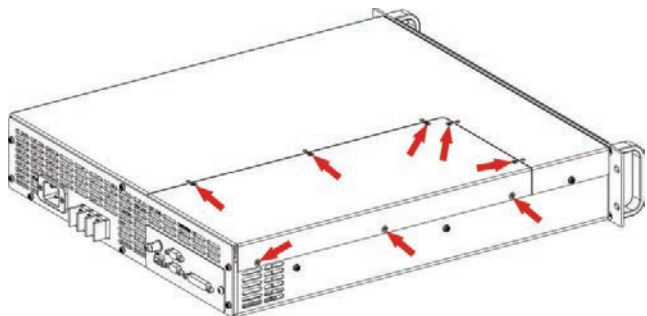

Figure 5.1 – Access Panel Screw Locations
1. Locate the Access Panel as shown in **Figure 5.1**. Make sure that all 8 screws are accessible. Remove the unit from its rack, if necessary.